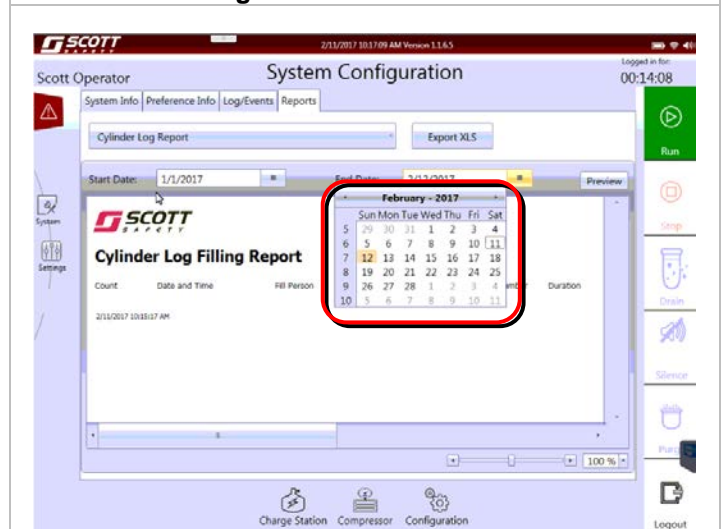

Figure 4.1-11: End Date
- 12. Touch the down arrow next to the End date to display a calendar. Use the left and right arrows to scroll through the months. Touch the date of the month to select the End date of the report. See Figure 4.1-11.